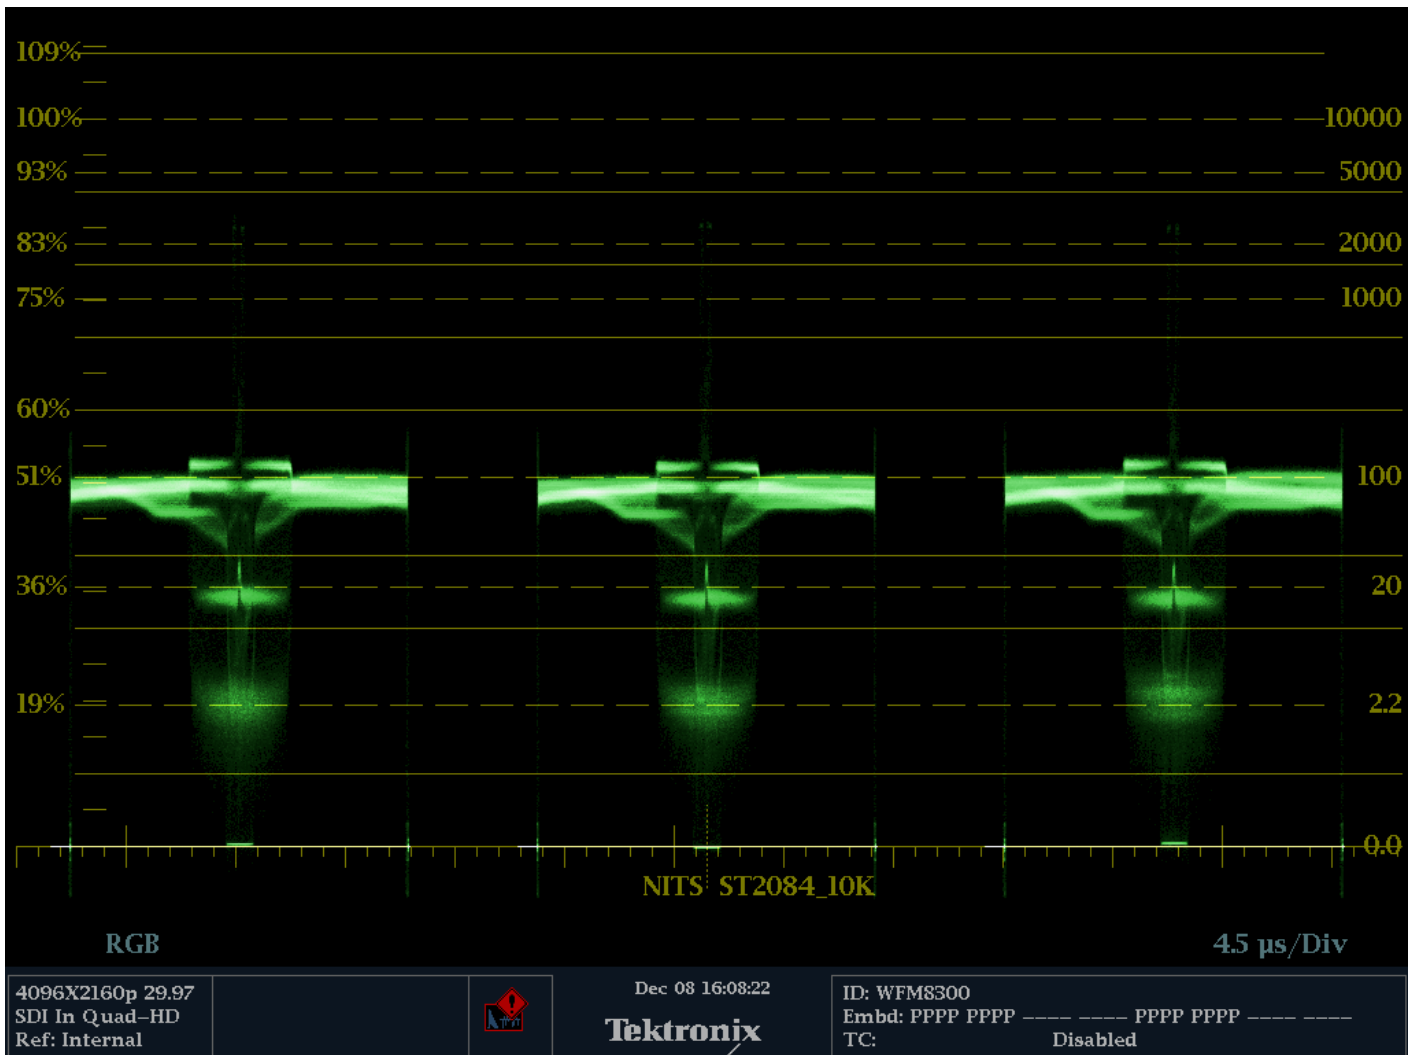

FIGURE 6. CHDR graticule using ST2084 10K.
12. Each sub menu has a range of graticules that are available for that mode, for instance HDR can select between **HLG(1200)**, **ST2084(1K)** and **ST2084(2K)**, **ST2084(4K)**, **ST2084(5K)** and **ST2084(10K)**, in this case **ST2084(10K)** was selected as shown in Figure 6.